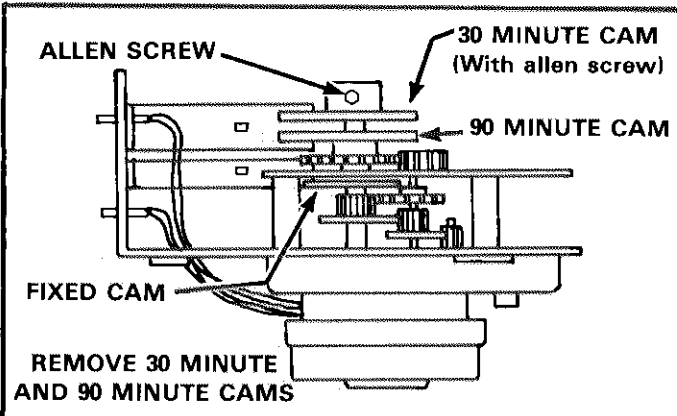

FIGURE 3
- 4 - Loosen allen screw and remove both cams as shown in figure 3.